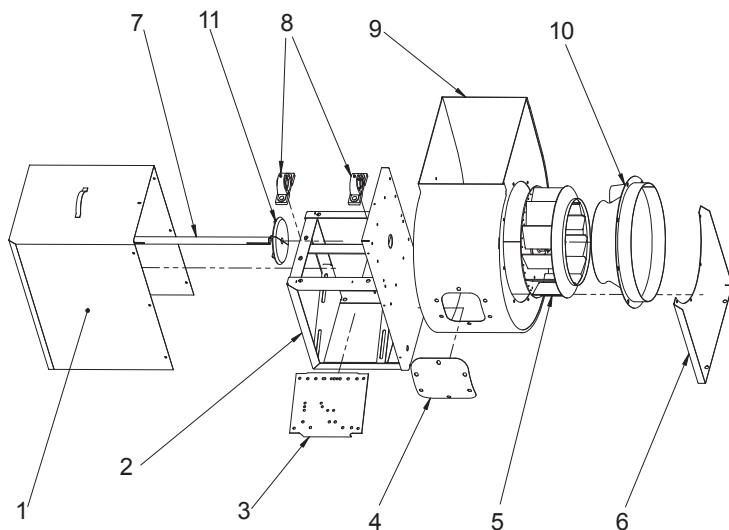

Figure 4
6. Should further service to the blower be necessary, refer to the exploded view illustration (see Figure 4).